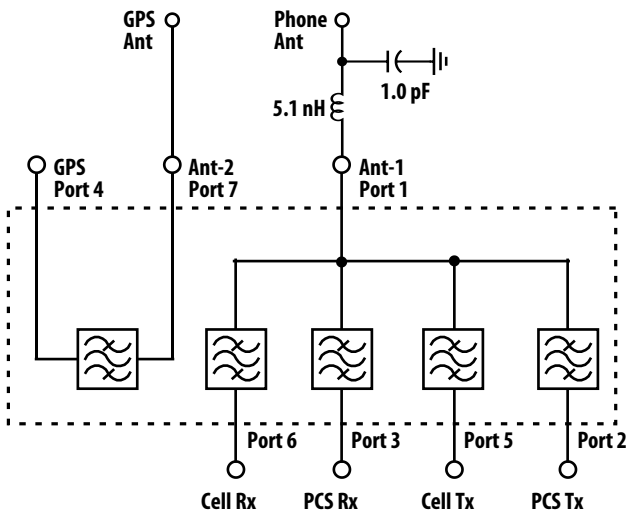

Figure 1. Dual Antenna Application.
4. Unless otherwise noted, specifications are for Dual Antenna connection as shown in Figure 1 and include effect of 5.1 nH inductor and 1.0 pF capacitor added to Port 1 (Ant-1) via simulation.
For applications in which a separate GPS antenna is preferred, the ACFM-7103 can be connected as shown in Figure 1.
1. Dual Antenna connection as shown in Figure 1. Data measured with $Z_0=50 \Omega$ for all ports; performance shown includes effect of 5.1 nH inductor and 1.0 pF capacitor added to Port 1 (Ant-1) via simulation.